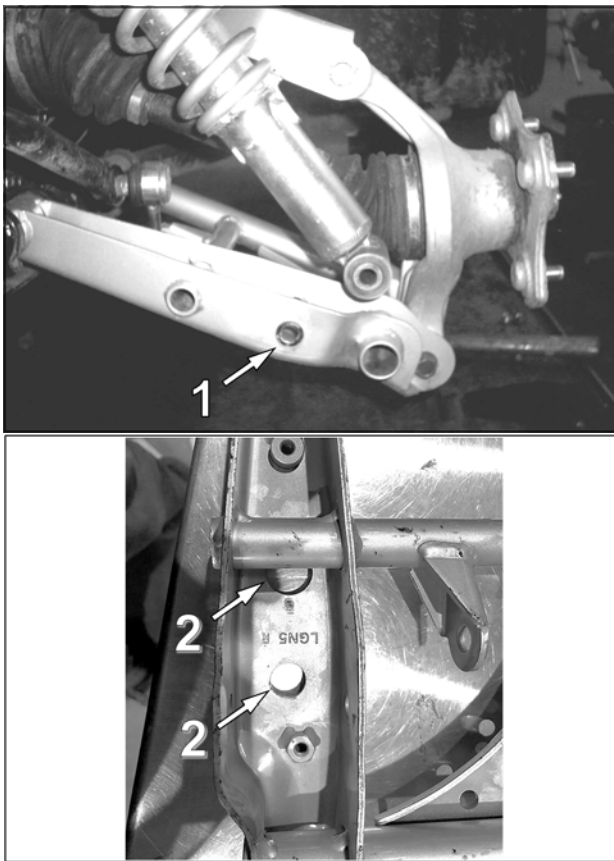

Fig. 5
- Remove mounting bolt (1) securing shock absorber to lower suspension arm. Move shock absorber sufficiently away to be able to access existing suspension arm holes (2), near shock absorber mounting holes. See Fig. 5